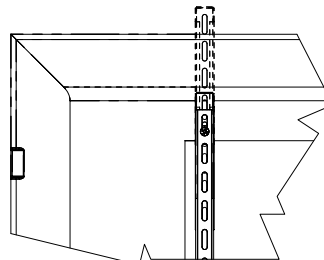

Figure 20 - Adjusting height of bracket
7. Position i-Series brackets with flat side facing display. Align appropriate slot with the topmost hole depending on your height requirement (figure 20). Use only the top five (5) slots. Use the smaller, snapped-off portion as a shim on the lower holes.